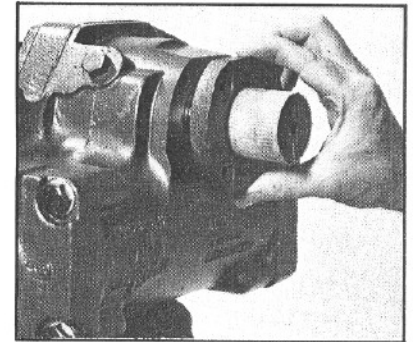
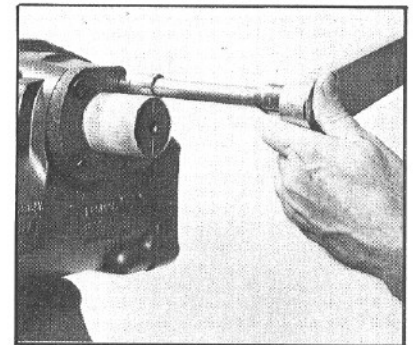
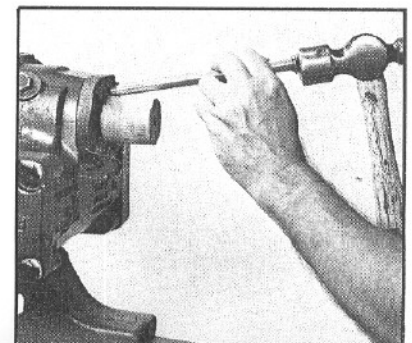

Figure 143
Figure 144
Figure 145
43. Visually inspect the housing bearing (21) to make sure that all the bearing rolls are properly in place. Then, install the trunnion cover (26) (FIG. 143). Install the four trunnion cover bolts (28), and torque them to 15-22 ft. lbs. (FIG. 144). Pack the cavity around the seal area of the sector shaft (50) with Mobil Temp 1 or 2 grease. Install a new dirt and water seal (27) using a suitable blunt-ended drift. (FIG. 145).